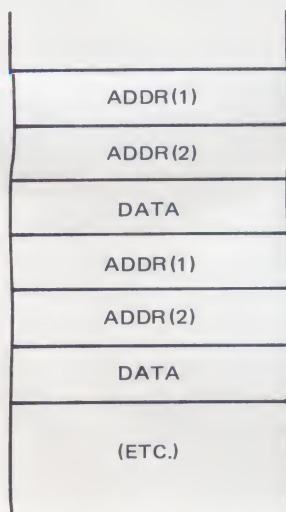

Fig. 1. Arrangement of characters on a punched tape for use with a simple-minded loader.
For this loader, the punched-tape data format is shown in Fig. 1. Notice that we have two characters of address for every character of data. That's because most micros have 8-bit data words, but 16-bit addresses. (I am assuming eight bits per tape character. If you use 5-bit tape, the details are different, but the principle is the same.) The address has to take up two tape characters because there aren't enough bits in a single character. I am using ADDR(1) to represent the high-order half of the address and ADDR(2) for the low-order half.